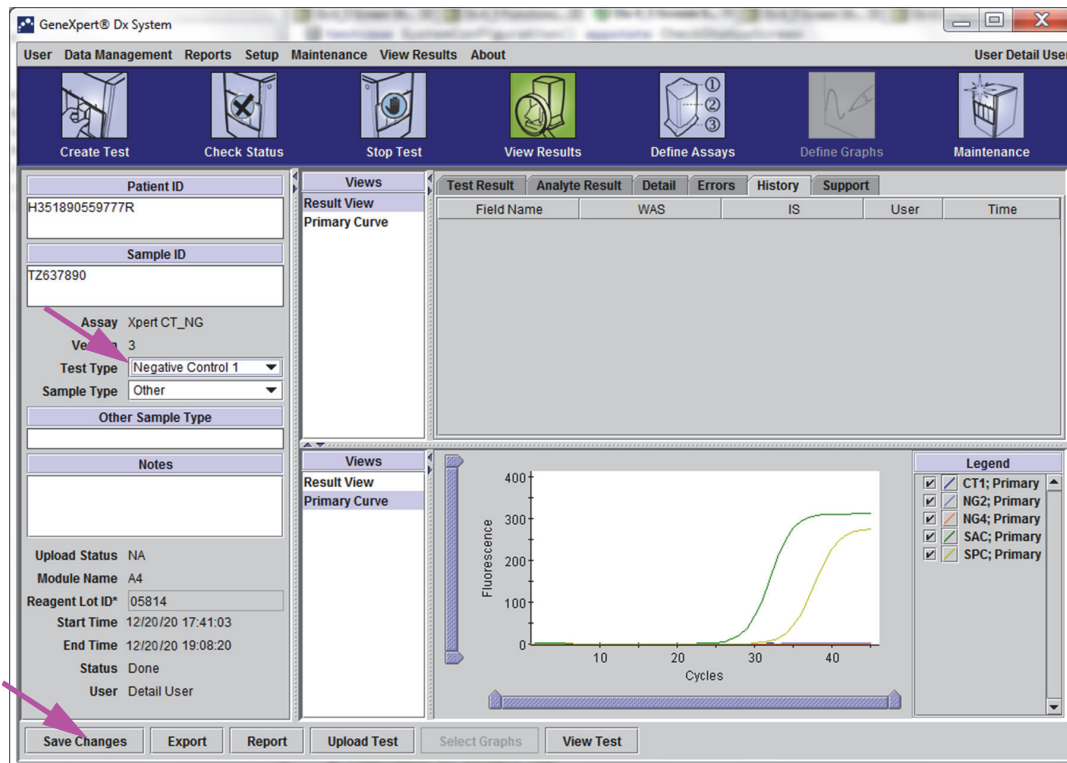
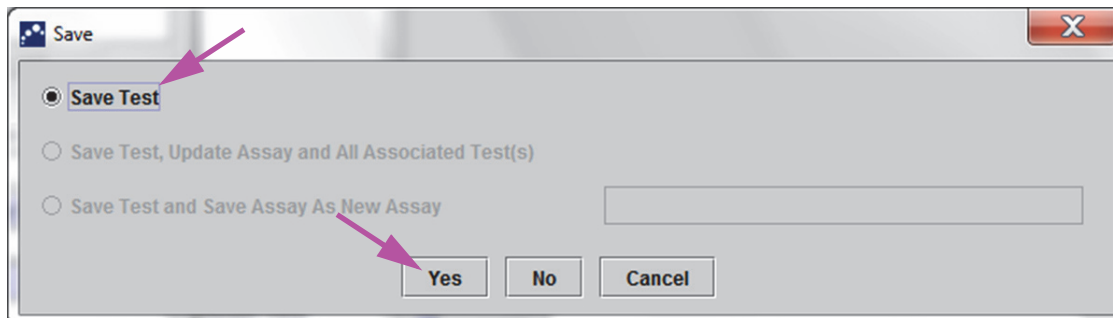

Figure 5-41. GeneXpert Dx View Results Window—Test Type Changed
Figure 5-42. Save Dialog Box
3. Change Test Type to Negative Control as shown in Figure 5-41.
4. Click the **Save Changes** button located at the bottom of the View Results window (see Figure 5-41). The Save Test dialog box appears. See Figure 5-42.